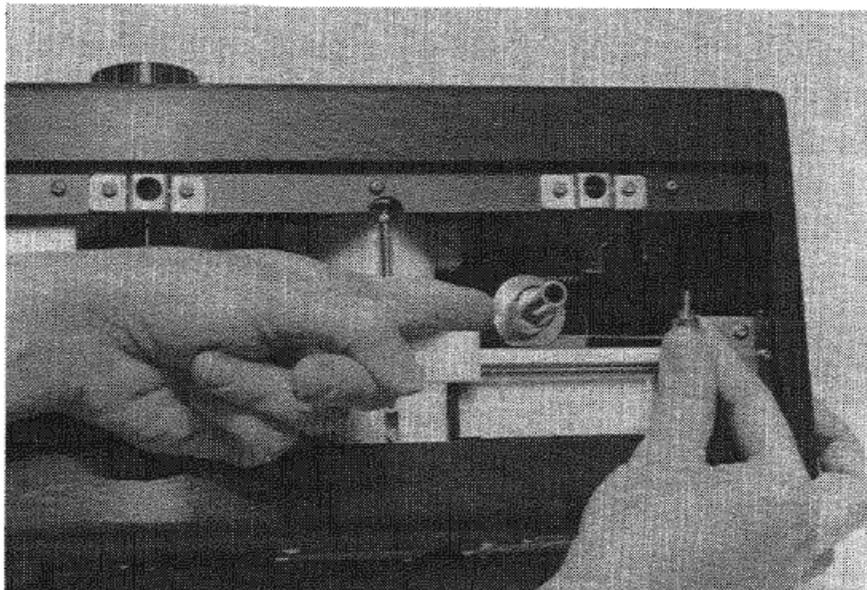

Figure 30. Removing the impactor and housing
Step 2. Remove the impactor and housing by unscrewing the thumbscrew and pulling the assembly toward the right end of the cabinet (Figure 30).